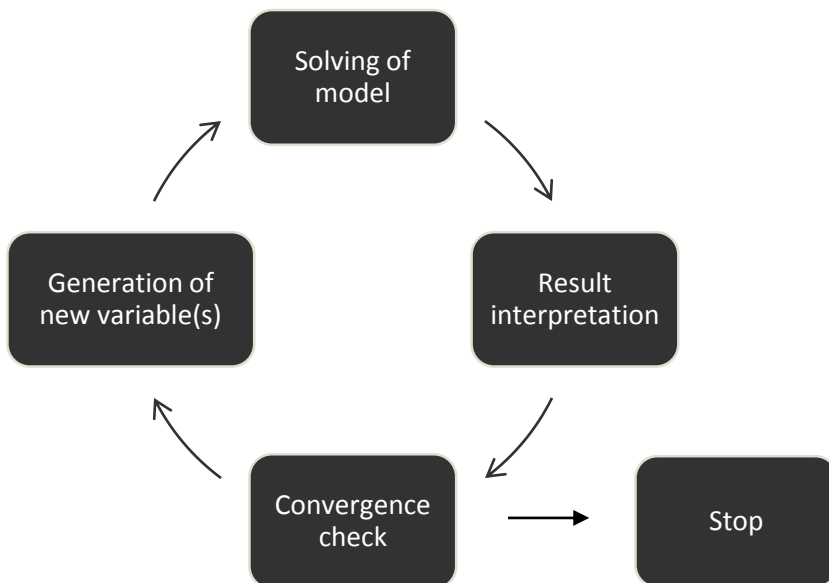

Figure 12 - Optimisation principle
The simplified optimisation procedure used here can be illustrated (figure 12) in the following way (13):